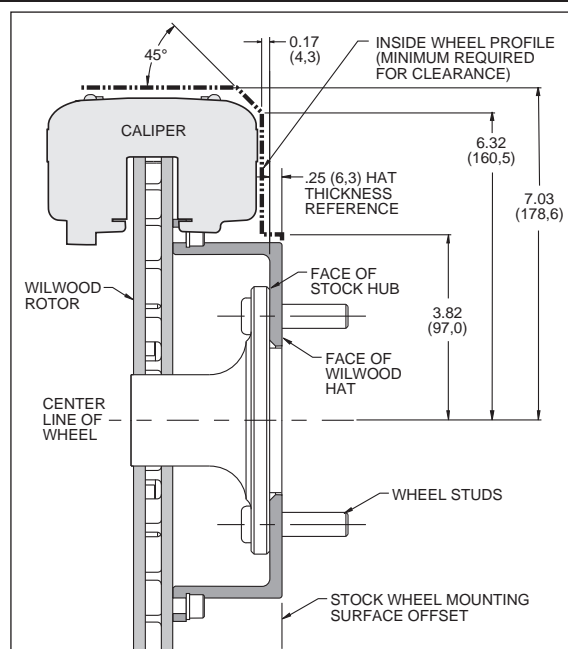

Figure 4. Wheel Clearance Diagram
- Review the wheel clearance diagram (figure 4, page 3) to verify that there is adequate clearance with the wheels you will be using with the installation.
- Verify your wheel clearance using Figure 4.